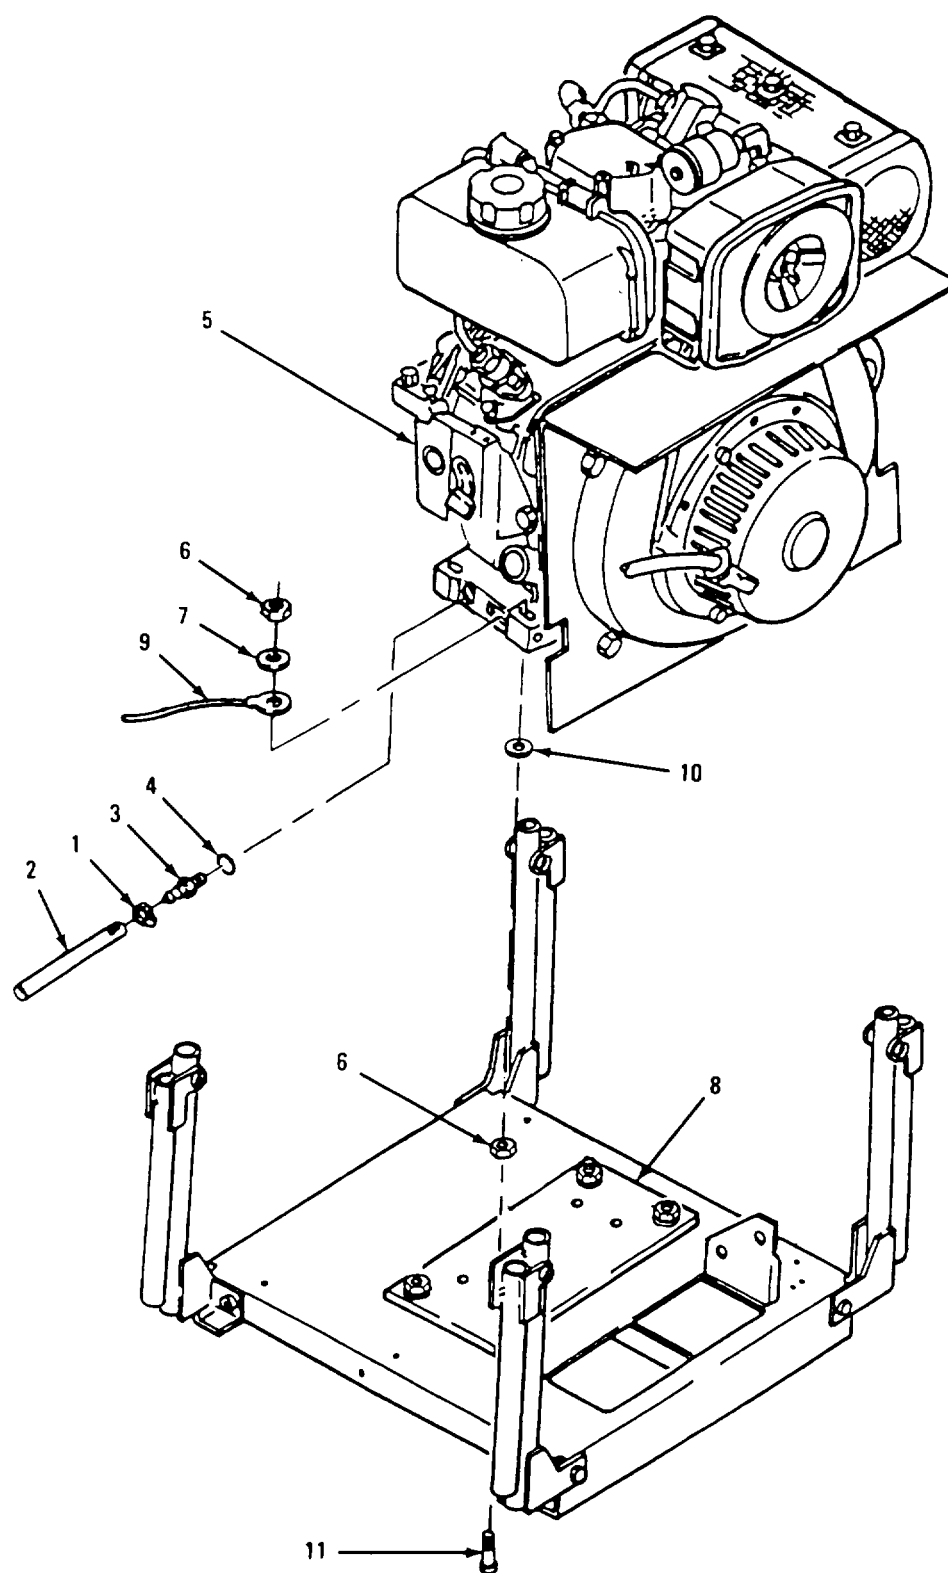

Figure 5-5. Engine Mounting Assembly
a. Removal. (Refer to Figure 5-5)
- (1)Remove clamp (1), oil drain hose (2), fitting (3), and gasket (4) from engine (5). Discard gasket (4).
- (2)Remove four self-locking nuts (6) and four washers (7) attaching engine (5) to engine base plate (8). Push aside ground wire (9).
- (3)Remove engine (5) and four washers (10) from engine base plate (8).